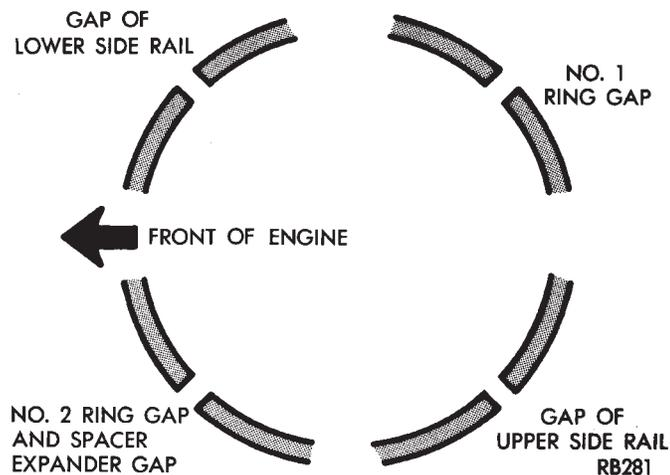

Fig. 13 Piston Ring End Gap Position
(5) Position piston ring end gaps as shown in (Fig. 13).